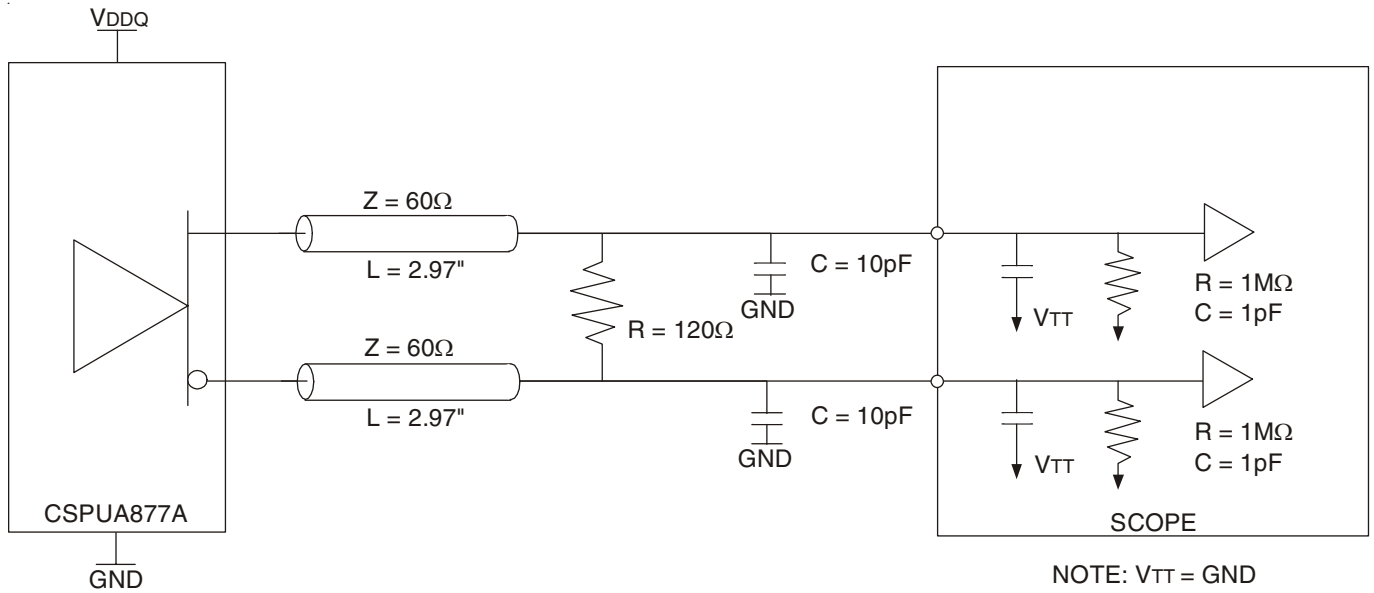

Figure 1: Output Load Test Circuit 1
- There are two different terminations that are used with the above AC tests. The output load shown in figure 1 is used to measure the input and output differential pair cross-voltage only. The output load shown in figure 2 is used to measure all other tests, including input and output slew rates. For consistency, use 50Ω equal length cables with SMA connectors on the test board.
- In the frequency range of 271 - 410MHz, the min and max values for tJIT(PER) and t( $\emptyset$ )DYN, and the max value for tsk(O), must not exceed the corresponding min and max values of the 160 - 270MHz range. Also, the sum of the specified values for | tJIT(PER) |, | t( $\emptyset$ )DYN |, and tsk(O) must meet the requirement for  $\Sigma$ t(SU), and the sum of the specified values for | t( $\emptyset$ )DYN | and tsk(O) must meet the requirement for  $\Sigma$ t(H).